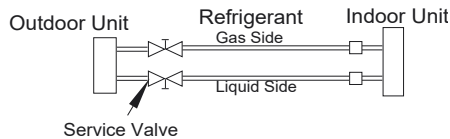

FIGURE 16 – Service Valves
1. Completely tighten the flare nuts of the liquid and gas pipes on the indoor and outdoor side (for all fan coils) (see Fig. 16).
4. Connect the charge hose to the vacuum pump (see Fig. 16).